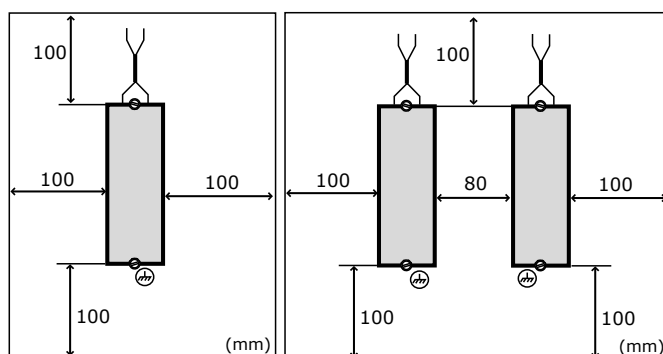

Fig.1
- Respect the distances and shieldings illustrated in Fig.1.